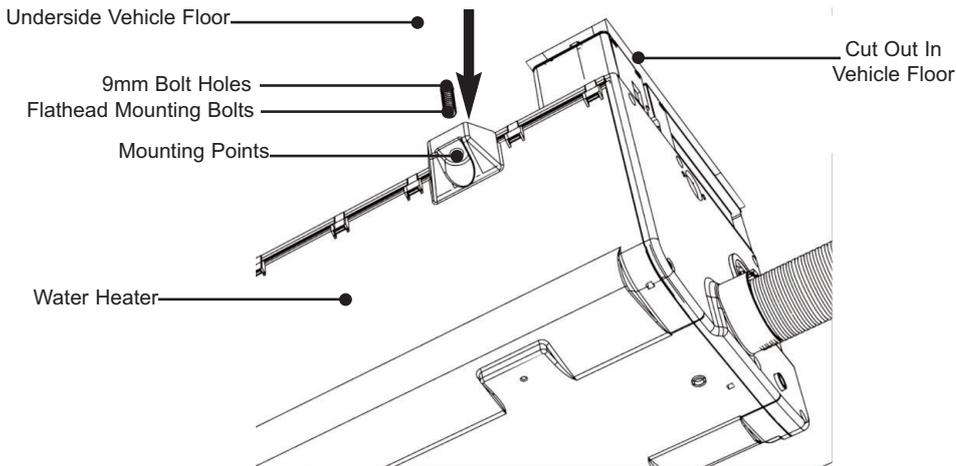

Fig. 11 Fit Water Heater
- ii. Place the Water Heater on the underside of the vehicle floor. The mounting bolts **must pass** through the mounting feet, (as shown in Fig. 11).